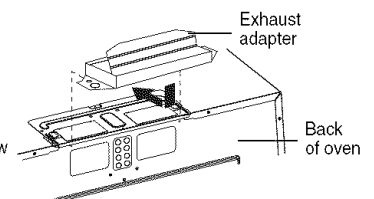

Figure 22
8. Attach the exhaust adapter to the blower plate by sliding it into the Guide. See Figure 22.